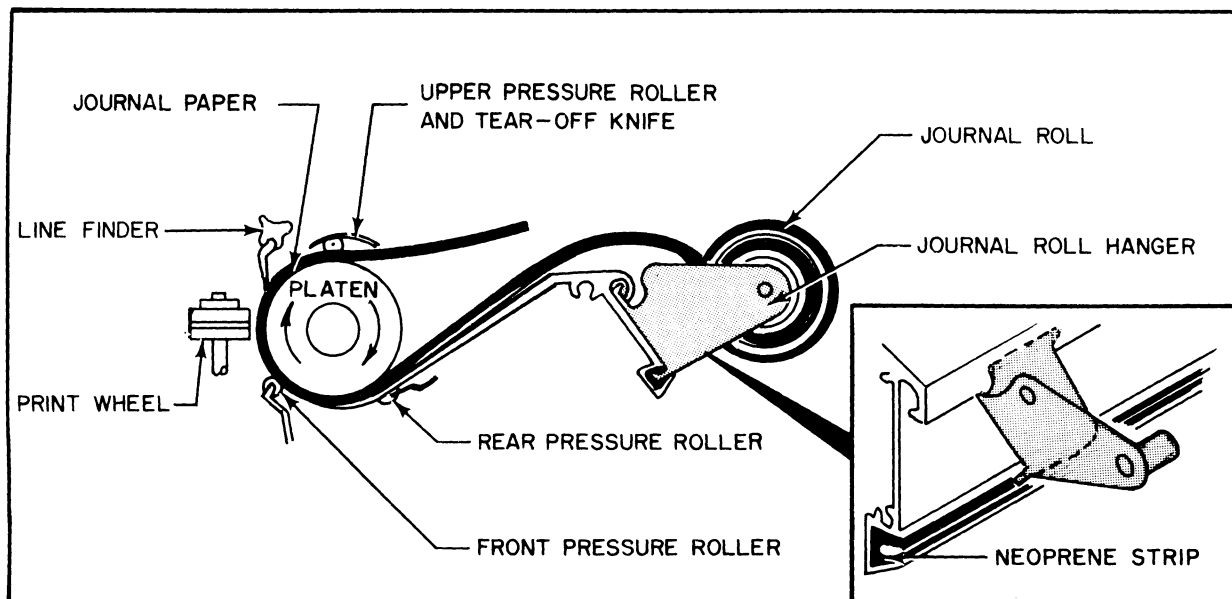

Figure 6.5
- D. Go back to the rear of the printer. Feed the journal roll between the rear pressure rollers and the platen, between the front pressure rollers and the platen, and under the line finder. (Figure 6.5.)